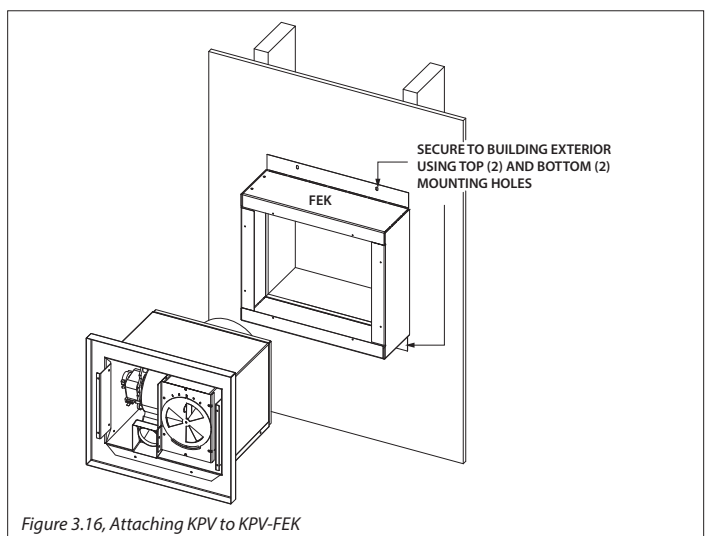

Figure 3.16, Attaching KPV to KPV-FEK
6. Reinstall the #KPV back assembly that was removed in Step 1 of Section 3.5. See Figure 3.16